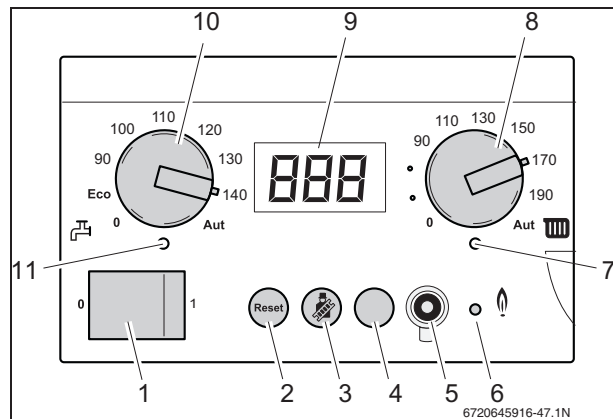

Fig. 93 BC10 basic controller
- Switch ON the appliance by pressing the main switch on the BC10 basic controller (fig. 93, [1]).
- Set the space heating water temperature knob (fig. 93, [8]) and the DHW temperature knob (fig. 93, [10]) to the maximum temperatures.
- Set the space heating water temperature knob (fig. 93, [8]) and the DHW temperature knob (fig. 93, [10]) to the required temperatures.